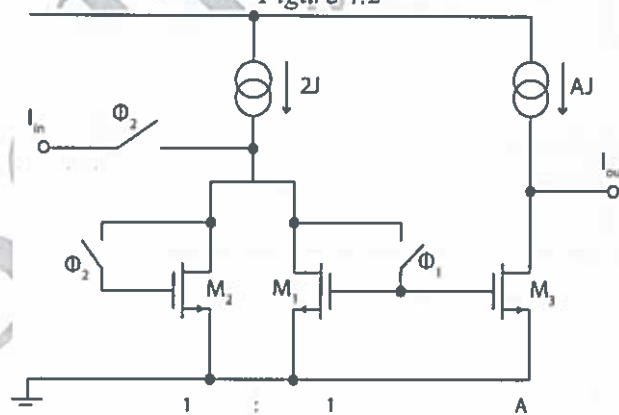

Figure 4.3
c) Figure 4.3 shows a schematic of switched current integrator.